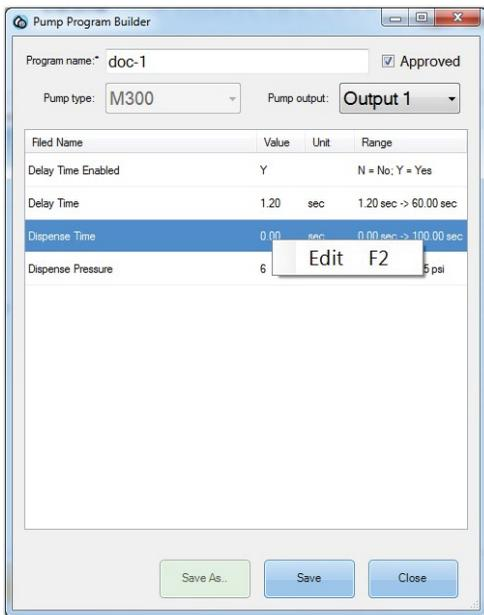

FIGURE 3-11: The Pump Program Builder dialog box
4. Select a pump type. The Pump Program Builder dialog box opens. See Figure 3-11.